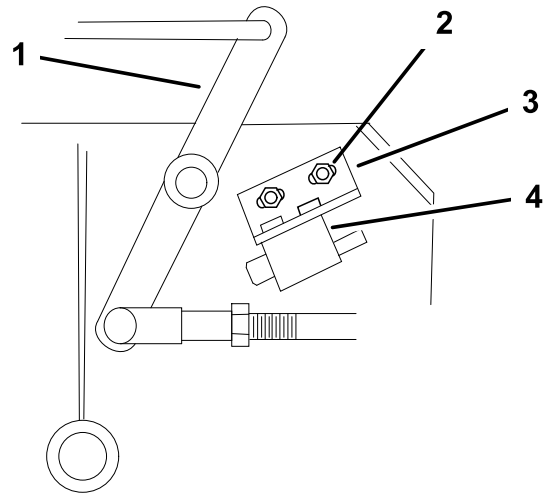

Figure 44
4. If needed, adjust the blade safety switch by loosening the bolts holding the switch bracket (Figure 44).
Note: Make sure the bellcrank **does not** touch the switch body or damage to the switch could occur (Figure 44).